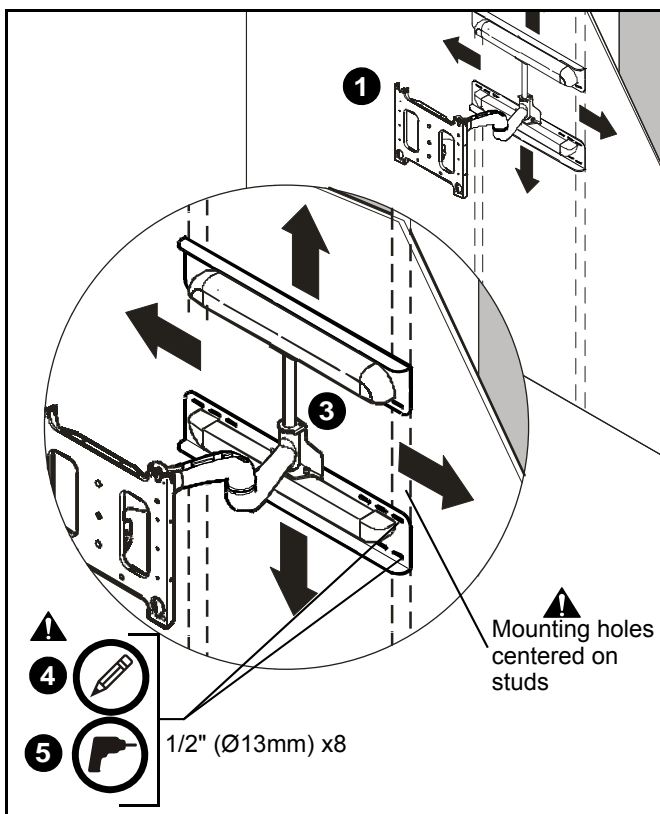

Figure 2
3. Align mounting holes in mount with studs making sure mounting holes are centered on studs. (See Figure 2)
**WARNING:** IMPROPER INSTALLATION CAN LEAD TO EQUIPMENT FALLING CAUSING SERIOUS PERSONAL INJURY OR DAMAGE TO EQUIPMENT! Make sure upper and lower mounting holes are used on both sides of both the upper and lower wall plates. (See Figure 2)
5. Drill eight 1/2" (Ø13mm) holes. (See Figure 2)